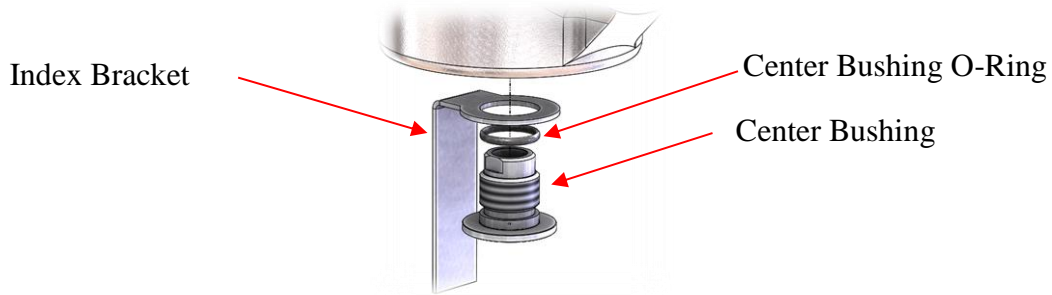

Figure 22: 2" Body Index Bracket
18. Remove and set aside the index bracket. See Figure 22. Be careful to not to bend the index bracket.
19. Remove the center bushing o-ring. See Figure 22.